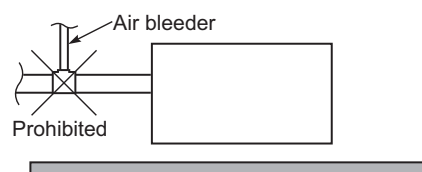

Fig. 2-96
- Do not install an air bleeder as this may cause water to spray from the drain pipe outlet. (Fig. 2-96)